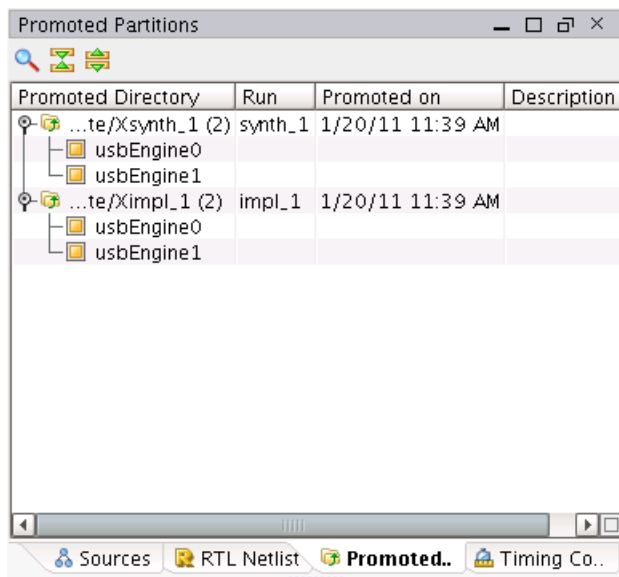

Figure 1-13: The Promoted Partitions
7. Explore the changes caused by promoting partitions (Figure 1-13):